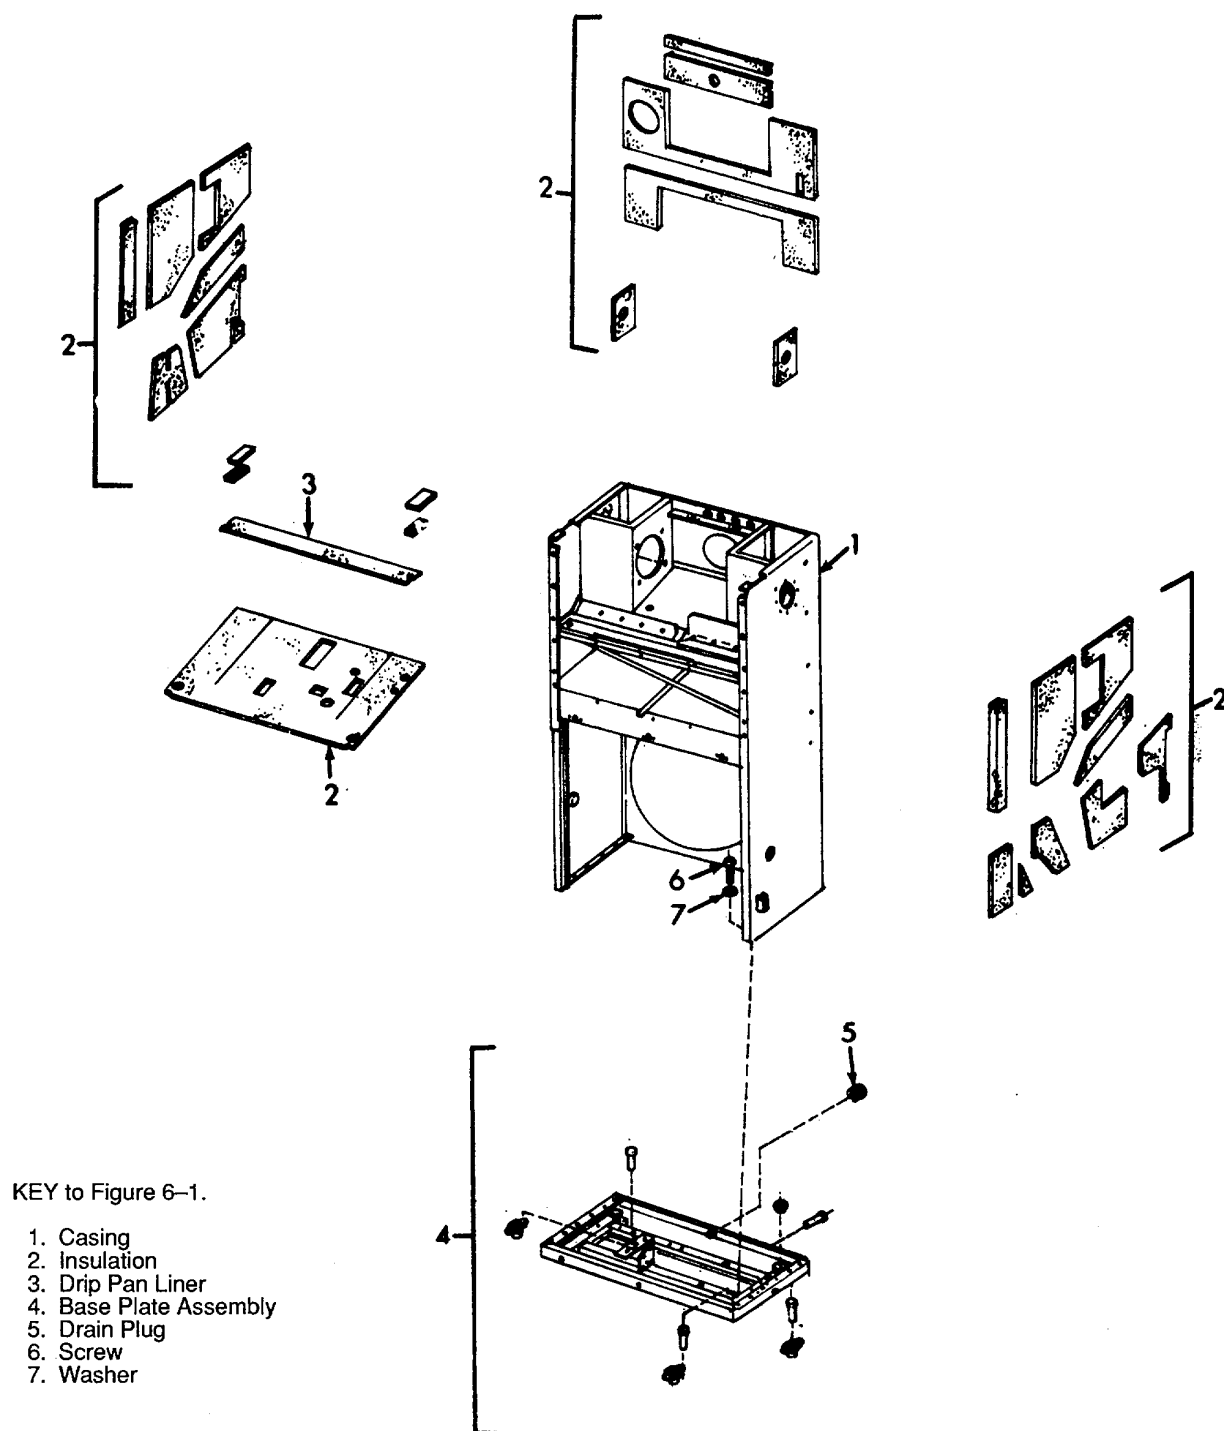

Figure 6-1. Casing and Insulation.
To replace the casing assembly, it is necessary to remove all external panels, grilles and information plates, and all functional components and retaining hardware from the inside of the air conditioner. New insulation must be applied to the inside of the casing before installation of functional components and external panels and grilles. (See Figure 6-1).
(27) Debraze tubing joints as necessary, and remove check valve (13) and pressure relief valve (15).
(28) Remove a screw, two washers and nut from each of two band clamps (10) holding the receiver (11). Remove the receiver and attached tubing.
(29) Remove all loop clamps, band clamps, spacers and other hardware securing tubing or refrigeration components to walls of casing.
(30) Remove six screws (6, Figure 6-1) and washers (7) from each side flange holding casing to base plate assembly (4).
(31) Attach a hoist, sling and spreader bar to the lift eyes on each side of casing, and place a slight amount of tension on the hoist.
(32) Debraze tubing connections above the level of the compressor to detach casing from base plate and base-plate-mounted equipment.